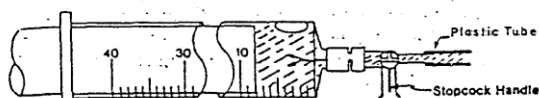

FIG. 2 Stopcock with Handle in Line with Flushing Port
4. Turn stopcock to the open position (Fig. 2) and allow 10 ml oil to enter syringe and close stopcock (handle to syringe).
6. With syringe-bubble-free, open stopcock (Fig. 2) and allow oil pressure to fill syringe to 80% full.